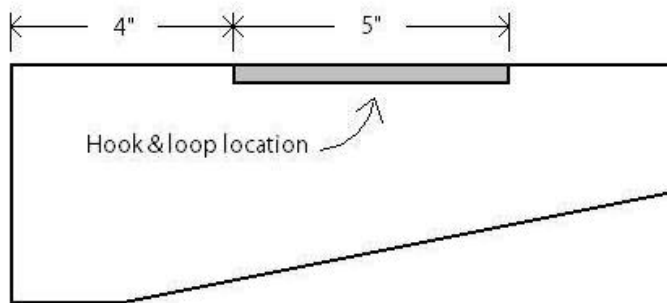

Figure 6. Layout of waist belt.
3.1 Make 1/2" slits in waist belts and linings where indicated in *Figure 6*.